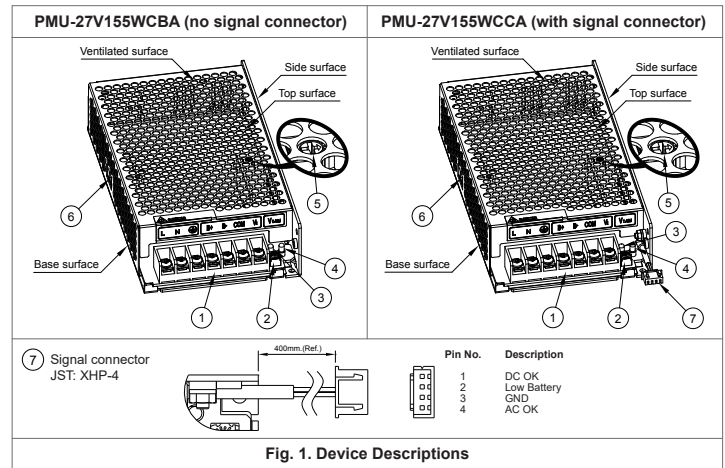

Fig. 1. Device Descriptions
- Must select correct AC input voltage range through selectable switch before turning on (Refer to Fig. 1, (6)).
Refer to Fig. 1.:
- ① Input & Output terminal block connector
- ② DC voltage adjustment potentiometer (24Vdc - 28Vdc)
- ③ Green LED ON = DC OK (Normal operation through mains supply or through battery when operating in buffering mode)
- ④ Red LED ON = Battery reverse polarity
- ⑤ Battery charging current adjustment potentiometer (Factory Setting: 1A)
*Max charging current shall not exceed 1.5A (Refer to Fig. 1, (5)).*
- ⑥ AC selectable switch
- ⑦ Signal connector - JST: XHP-4 (for PMU-27V155WCCA only)